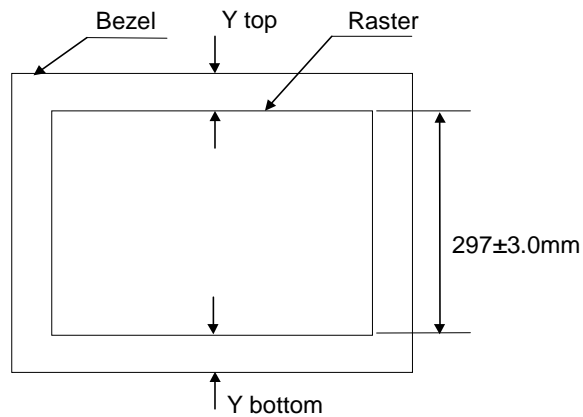

Fig 1-2 Vertical Raster Centering
- 2) Menu (S), TAG2 data on "V.LINEARITY" are 90, and it confirms that data on "V.LIN.BALANCE" are 128.
- 3) Open Menu (S), TAG2 "V.SIZE", adjust "+", "-" SW so that the vertical raster size is 297 ± 3.0 mm.
- 4) Open Menu (S), TAG 2 "V.RASTER CENTER" and push "RESET" SW.
- 5) Adjust the vertical raster and the space of the edge as listed below by switch.(Fig 1-2 reference)
- 3) Open Menu (S), TAG 2 "V.RASTER CENTER" and push "RESET" SW.
- 4) Adjust the vertical raster and the space of the edge as listed below by switch. (Fig 1-2 reference)